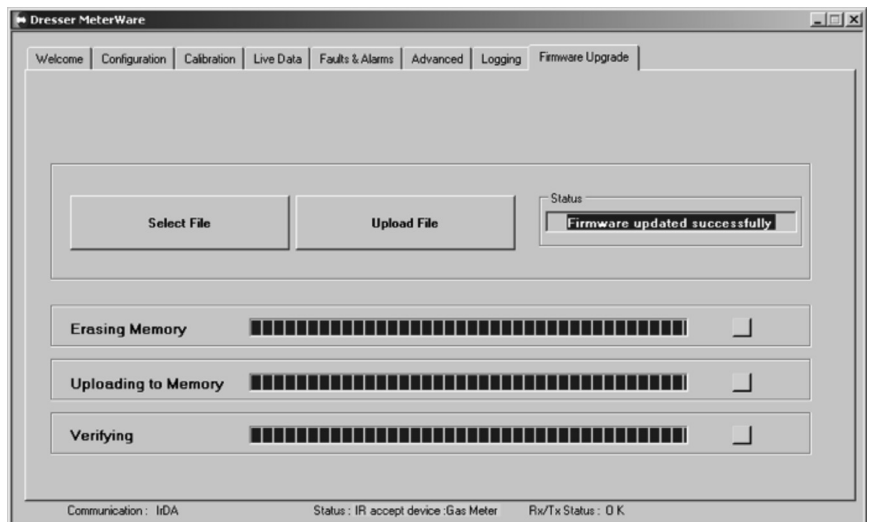

Figure 12.9 - Firmware upgrade is complete.
- When the firmware upgrade is complete, the three squares are green and the screen displays the message **Firmware updated successfully**. Refer to Figure 12.9.